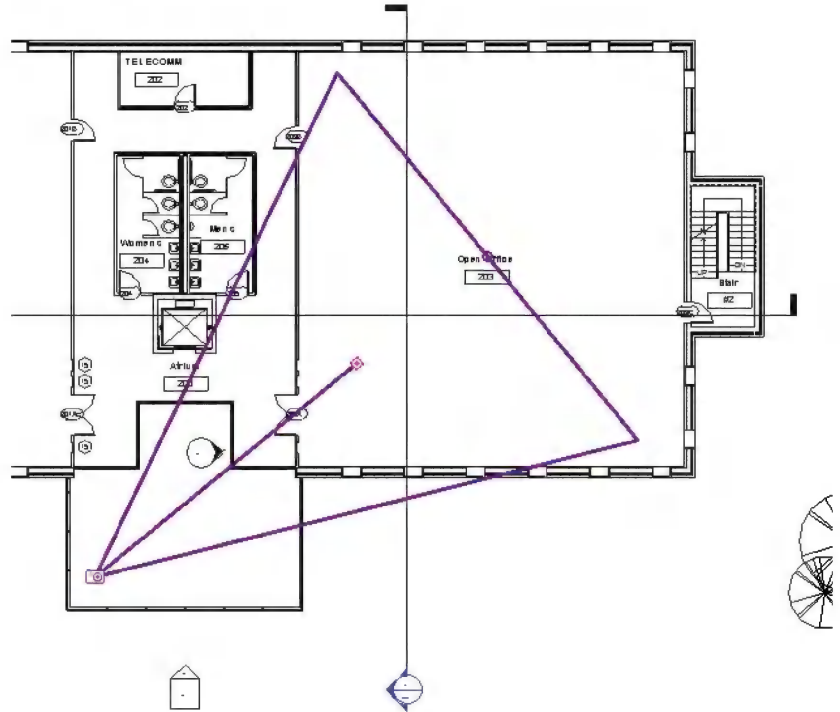

FIGURE 13-4.1 Camera placed – Level 2 view
4. Place the *Camera* as shown in **Figure 13-4.1**.